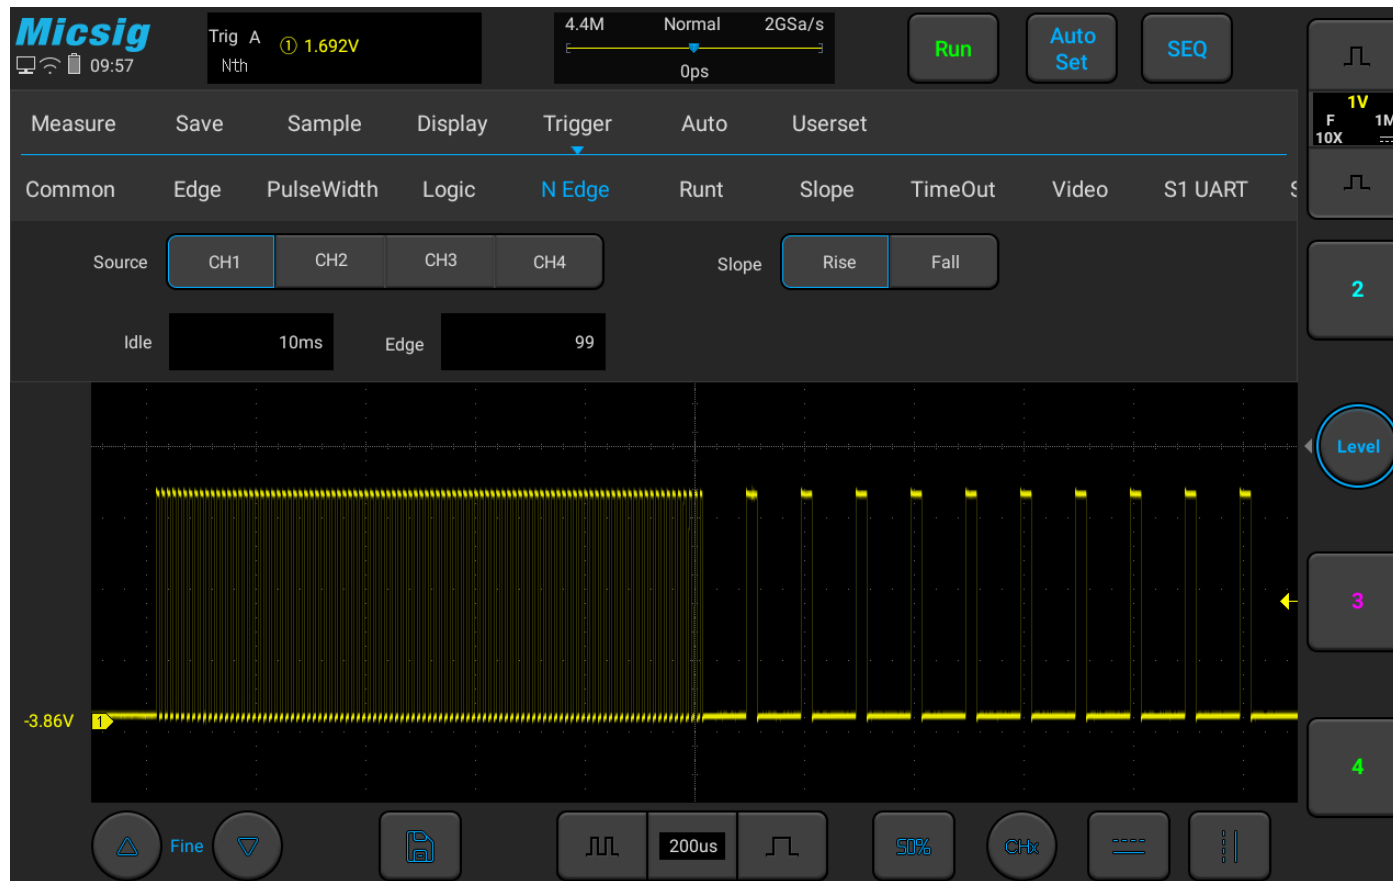

Figure 5-23 Nth Edge Trigger Menu
- 1) Tap “Trigger” on the main menu to open the trigger menu, select Nth edge trigger in the trigger type, and set the Nth edge trigger as follows, as shown in Figure 5-23: